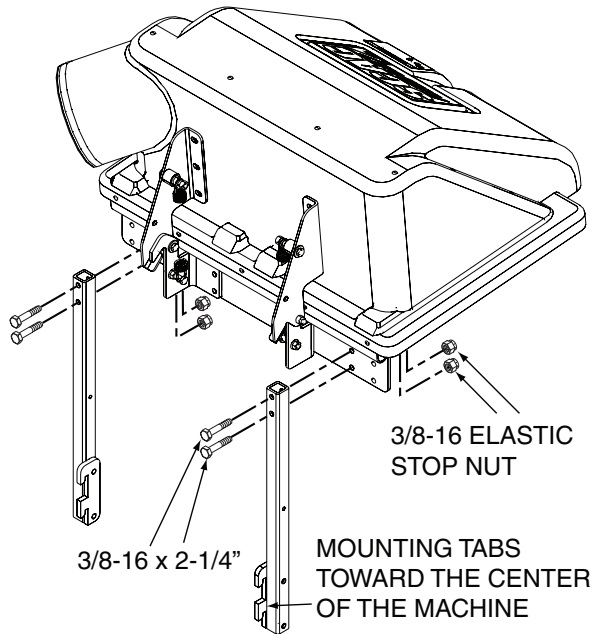

**Figure 2-10. GC Mounting Bracket Installation**
1. Install the left and right side grass catcher mounting brackets to the rear of the machine. Secure using (4) 3/8-16 x 1" hex head bolts and (4) 3/8-16 serrated flange nuts. See Figure 2-10.